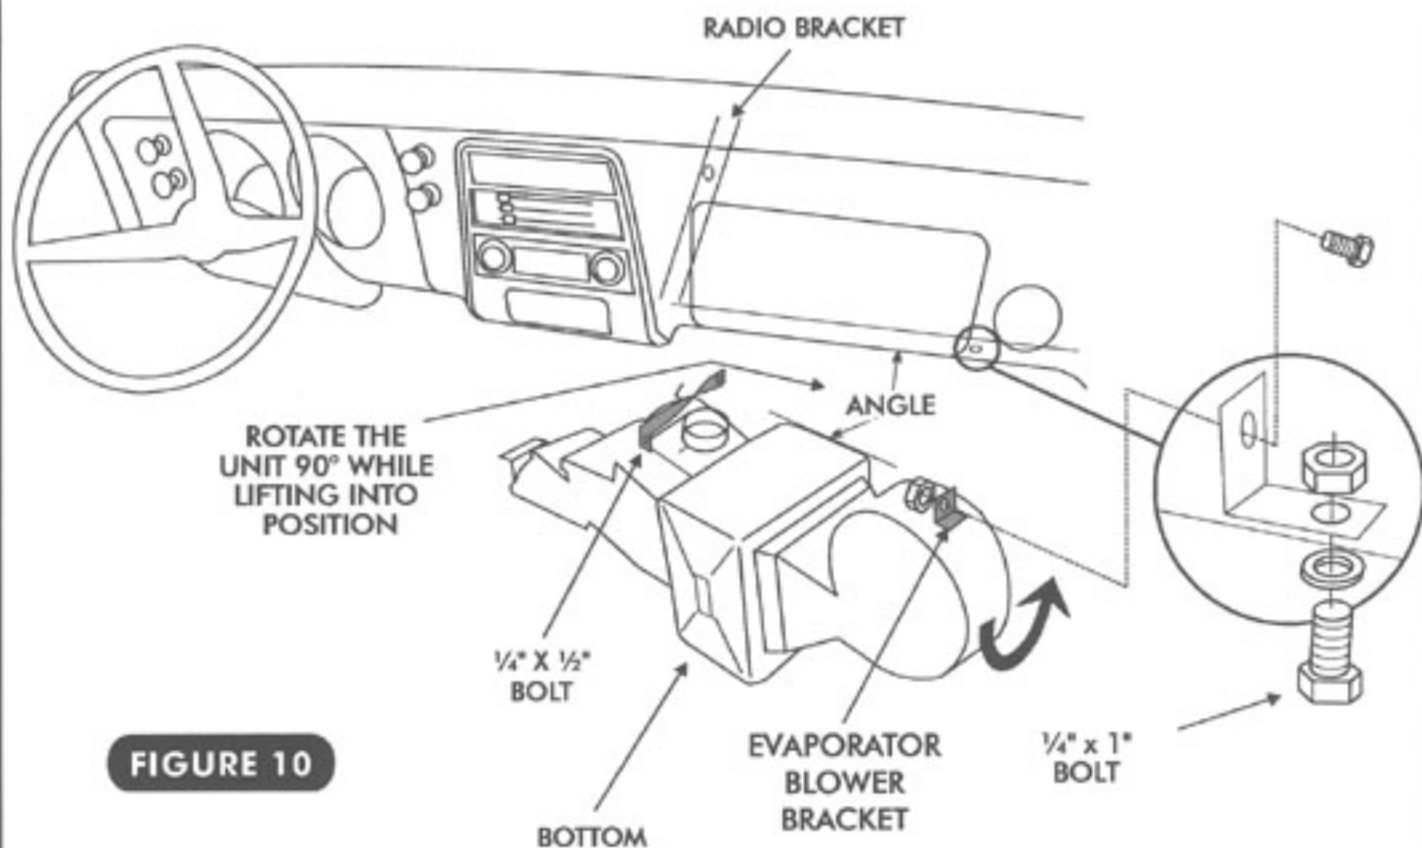

FIGURE 10
- THE PASSENGER SIDE EVAPORATOR BRACKET ASSEMBLY CONSISTS OF 2 SEPARATE BRACKETS. ONE BRACKET COMES MOUNTED ON THE EVAPORATOR UNIT. THE OTHER BRACKET IS PACKED IN THE DRAIN KIT BAG. THIS BRACKET MOUNTS TO THE TOP OF THE LOWER DASH PANEL THROUGH AN EXISTING HOLE. CONNECT THIS BRACKET TO THE DASH AND THE MATING BRACKET USING 1/4" X 20 X 1" BOLTS AND NUTS, AS SHOWN IN FIGURE 10.